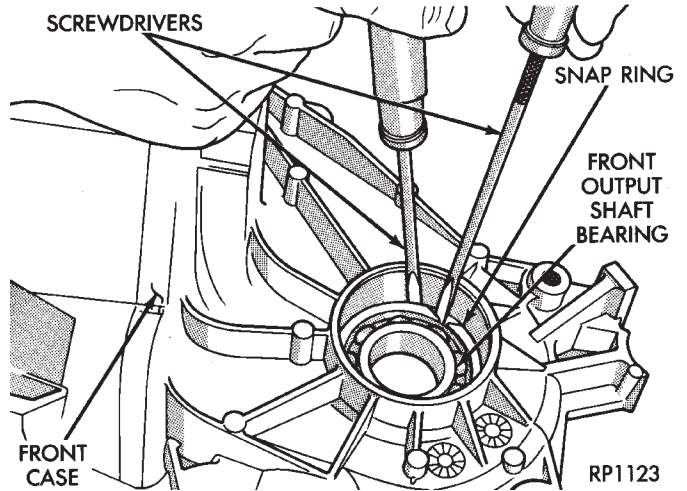

Fig. 41 Front Output Shaft Bearing Retaining Ring Removal
(2) Remove the front output shaft bearing retaining ring with screwdriver (Fig. 41).